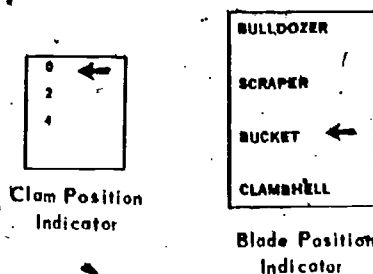
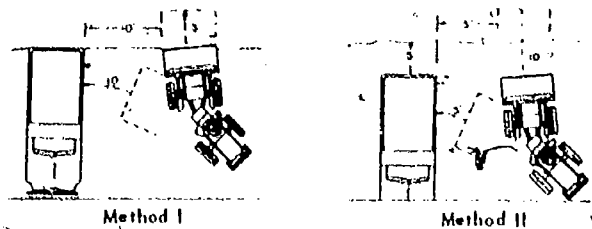

Fig 5-15. Clam and blade position indicators.
Fig 5-16. Correct positioning of hauling unit for loading from a stockpile.
- (3) The rear axle disconnect lever is used to engage the rear axle for 4-wheel drive. Use 4-wheel drive when working the vehicle and 2-wheel drive when traveling from one job to another. Pull up on the control to disengage the rear wheels.
- (4) The indicators are similar to those listed for the 82-30M crawler-tractor.
c. Operation. The work cycle for loaders can be divided into four phases: loading, carrying, dumping, and returning. The most common operation is removing material from stockpiles and loading it in hauling units. The Drott 4-in-1 attachment or clam bucket permits the loader to perform a variety of jobs, in addition to standard loading functions. The separately controlled clam can be opened and closed to operate as a clam type bucket or a standard bucket by sideways movement of the bucket tilt control lever. A clam position indicator and a blade pitch indicator (fig 5-15) are attached to the blade to aid in positioning the bucket components as required to perform its various functions.
- (1) **Standard loading and dumping operations.** When using the clam-type bucket as a standard bucket for loading material from a stockpile into a hauling unit, position the hauling unit as illustrated in figure 5-16.
- (b) If the clam is open, move the tilt control lever to the right until the pointer is on "0" of the clam position indicator (fig 5-15).
- (c) Tilt the bucket backward or forward until the blade indicator pointer is at bucket position (fig 5-15).
- (d) Engage the 4-wheel drive by pushing down on the control, release the parking brake, and shift the transmission into 1st forward range. Accelerate the engine so that the bucket is forced into the stockpile. Turn the steering wheel right or left as the bucket is loaded. Move the tilt control lever back and forth as the bucket crowds into the stockpile until the bucket is full. When full, move the tilt control lever back to the tilt back position and tilt the bucket all the way back. The bucket loading operation should end with the bucket to the rear of the hauling unit as illustrated in figure 5-16 and tilted back against the stops. If the stockpile is low, particularly with free flowing material, leave the lift control lever alone. Keep the bucket one or two feet off the ground.
- (2) **Scrape loading.** The Dred 4-in-1 clam-type bucket can be used for smooth, accurate scraper-type loading such as stripping topsoil or sod.
- (a) Position the blade by moving the tilt control lever until the pointer is aligned with the scraper on the blade pitch indicator and with 2 or 4 on the clam position indicator (fig 5-15).
- (3) Dozing. The Drott 4-in-1 clam-type bucket can also be used as a dozer.
- (a) Lower the bucket to the ground and open the clam until the pointer is below the 4 on the clam indicator (fig 5-15).
- (b) Tilt the blade until the pointer is at bulldozer on the blade pitch indicator (fig 5-15). For level grading, the blade moldboard should be perpendicular to the ground. To dig in, the moldboard should be tilted forward; for no digging, tilt the moldboard back.
- (4) Clamshell loading and dumping. Using the Drott 4-in-1 clam-type bucket as a clamshell is another operation that can be performed with this versatile item of equipment.
- (a) Position the pointer so that it is aligned with clamshell on the blade pitch indicator (fig 5-15).
- (b) Open the clam until the pointer is below the 4 on the clam position indicator (fig 5-15).